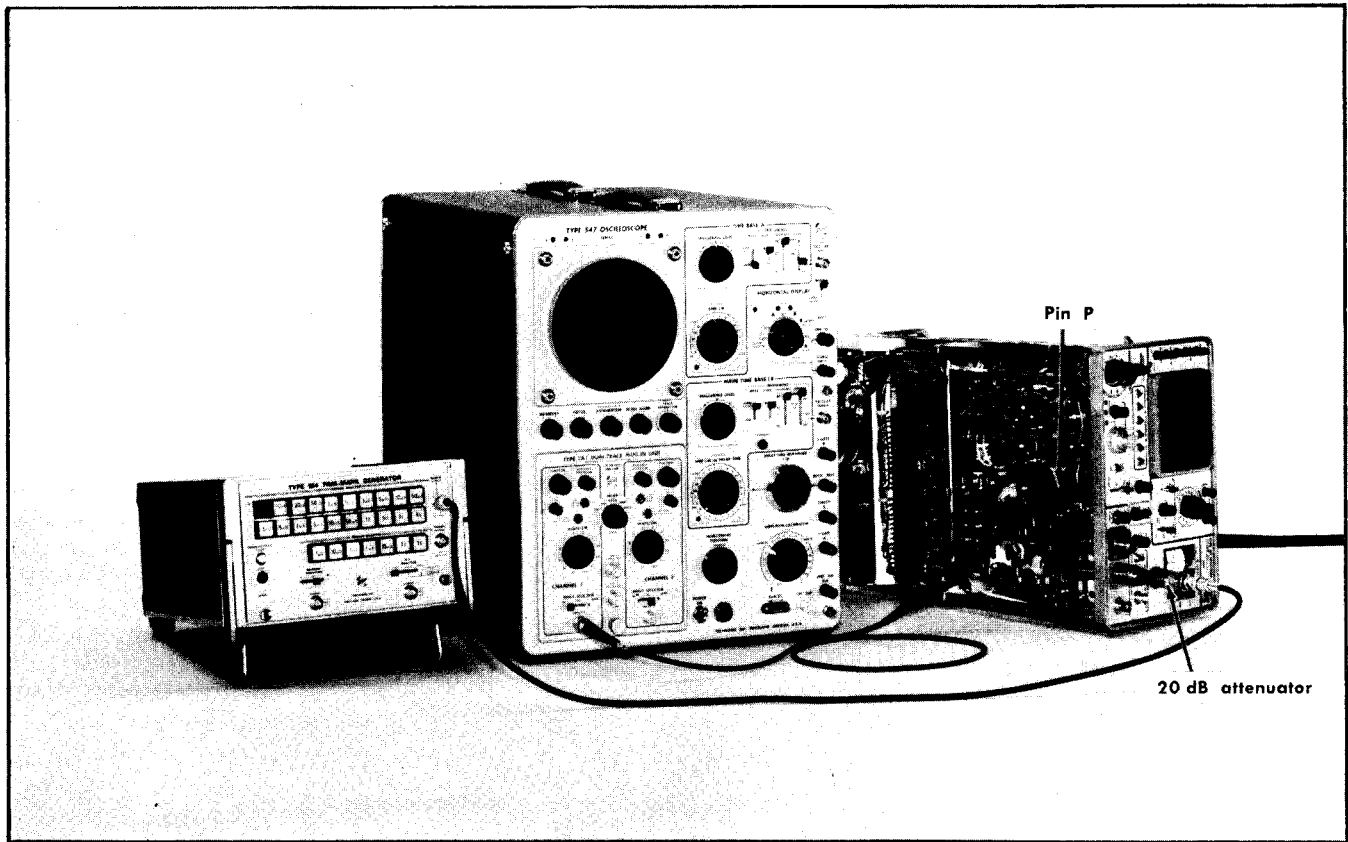

Fig. 6-19. Test equipment setup to adjust and check dispersion accuracy.
a. Equipment setup is given in Fig. 6-19.